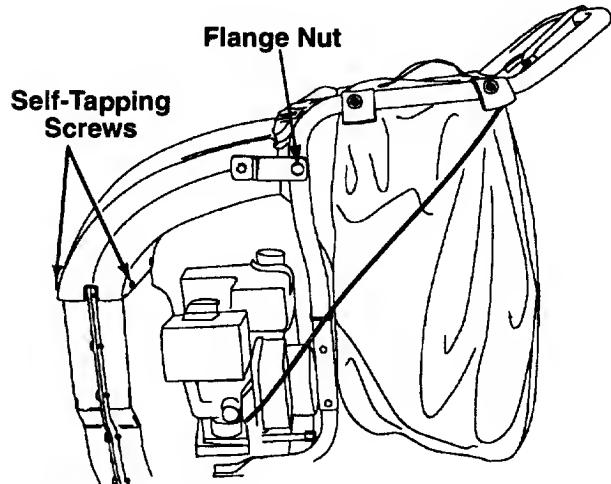

FIGURE 14.
5. Remove the four self-tapping screws that secure the discharge chute to the housing. See figure 14.
6. Remove the flange nut which secures the support bracket to the handle. See figure 14. Pivot support bracket up and remover discharge chute from unit.